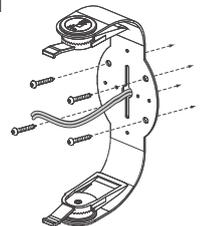

FIGURE 3:
2. Attach the FastMount brackets to the mounting surface using the included hardware that is appropriate for the type of surface (see figure 3).